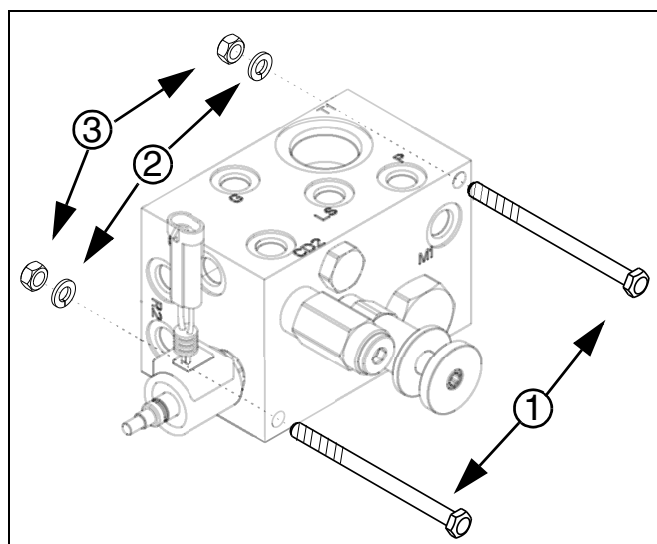

Figure 2
1. Fasten the hydraulic control valve (see Figure 2) to the factory-installed bracket on the right wing of the planter by inserting a hex head cap screw 802-474C (HHCS $\frac{5}{16}$ - 18X4 $\frac{1}{2}$ GR5) ① through the control valve casing, ring wing plate, lock washer 804-009C (WASHER LOCK SPRING $\frac{5}{16}$ PLT) ②, and hex nut 803-008C (NUT HEX $\frac{5}{16}$ -18 PLT) ③. Tighten hex nut until snug. Repeat for second bolt, washer, and nut set.
Run the hydraulic hoses from the hydraulic control valve ports (See Figure 2 for port labels) and complete setup for each of the following: